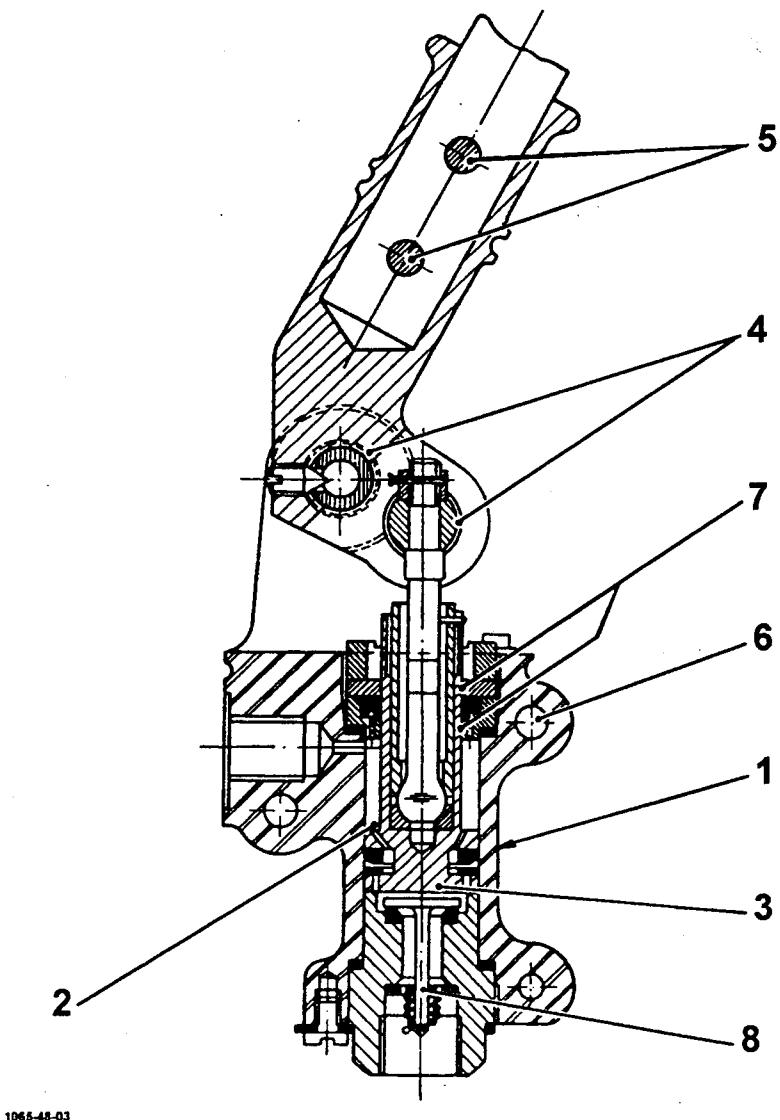

Fig 1 Key diagram for repairs, fits and clearances
4. (1) External dents or abrasions (Ref 1, Fig 1) 0.020 in. in depth may be neglected provided that the internal dimensions are not affected.
- (2) Slight surface defects in the cylinder bore (Ref 2, Fig 1) may be removed by polishing, provided that the diameter of the bore is not increased beyond the permissible worn dimension.
- (3) Scores in the pistons which are not deeper than 0.002 in. may be stoned out.
(4) If the bushes (Ref 4, Fig 1) are loose in their holes, open out the holes to 0.6882 - 0.6870 in. countersink both sides, 0.030 in. x 45° and press in new oversize bushes 578-E-23502.
(5) Damage to the two 3/16 in. diameter bolt holes in the rocker arm (Ref 5, Fig 1) may be remedied by drilling the two mating parts together 1/4 in. diameter and fitting 1/4 in. diameter bolts.
(6) Any damage to the three fixing holes (Ref 6, Fig 1) can be remedied as follows: Open up the three 17/64 in. diameter holes to 0.3286 - 0.3276 in. diameter, drive in two bushes 76-D-1238, one from each side of the body, until they are flush.